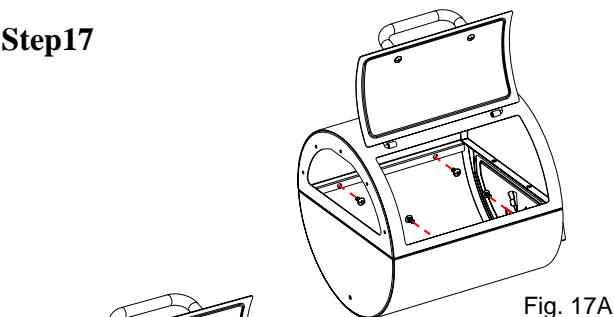
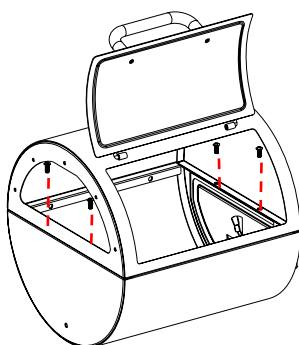

Fig. 17A
Fig. 17B
*Locate:* Firebox Top and Bottom halves, Firebox Side Handle, (12) M6x15 bolts
Refer to Fig. 17A and Fig. 17B. Note- the clean-out door is in the BOTTOM half and facing to the RIGHT. The smoke passage opening is in the TOP half and is facing to the LEFT. Fasten the two halves together using (8) M6X15 bolts as shown.